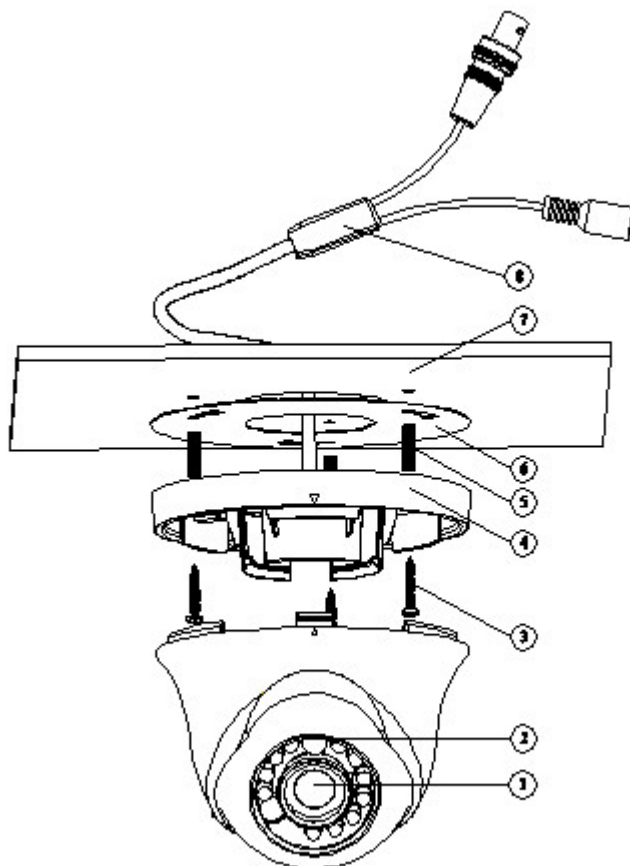

Figure 3-2
Adjust the device pedestal position (4) according to your cable exit requirements (top cable exit/side cable exit), pull the cable (8) through the side cable exit from the installation surface (7) and the pedestal (4) (You can skip current operation if you want to use top cable exit mode). Line up the screw hole of the pedestal (4) to the plastic expansion bolt fix hole of the installation surface (7). Use three self-captive screws to the plastic expansion bolts (5) firmly and then secure the pedestal (4) to the installation surface. See Figure 3-2.